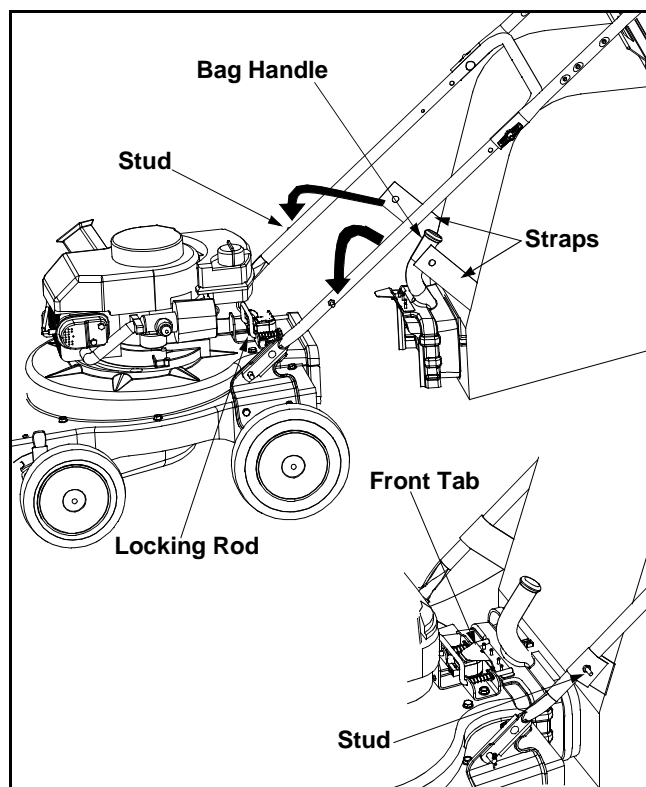

Figure 3
- Grasp bag handle with one hand and slide locking rod on mounting bracket with other hand toward engine. Use the end of mounting bracket as leverage when sliding the locking rod. See Figure 3.
- Remove bag from rim of the discharge opening. Refer to Figure 3.